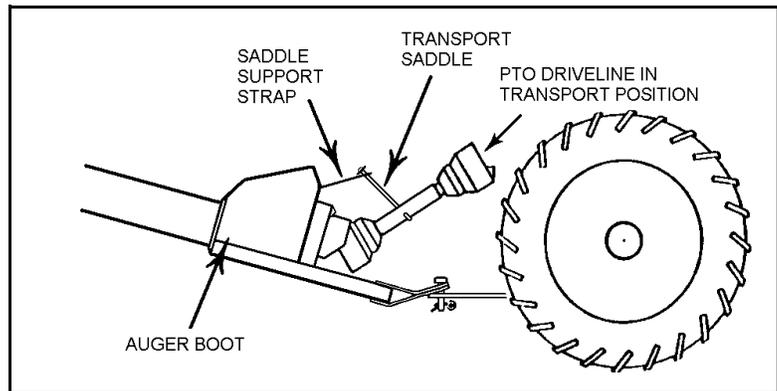

Figure 4.1
- Disconnect PTO driveline from tractor and secure in transport saddle, see Figure 4.1.